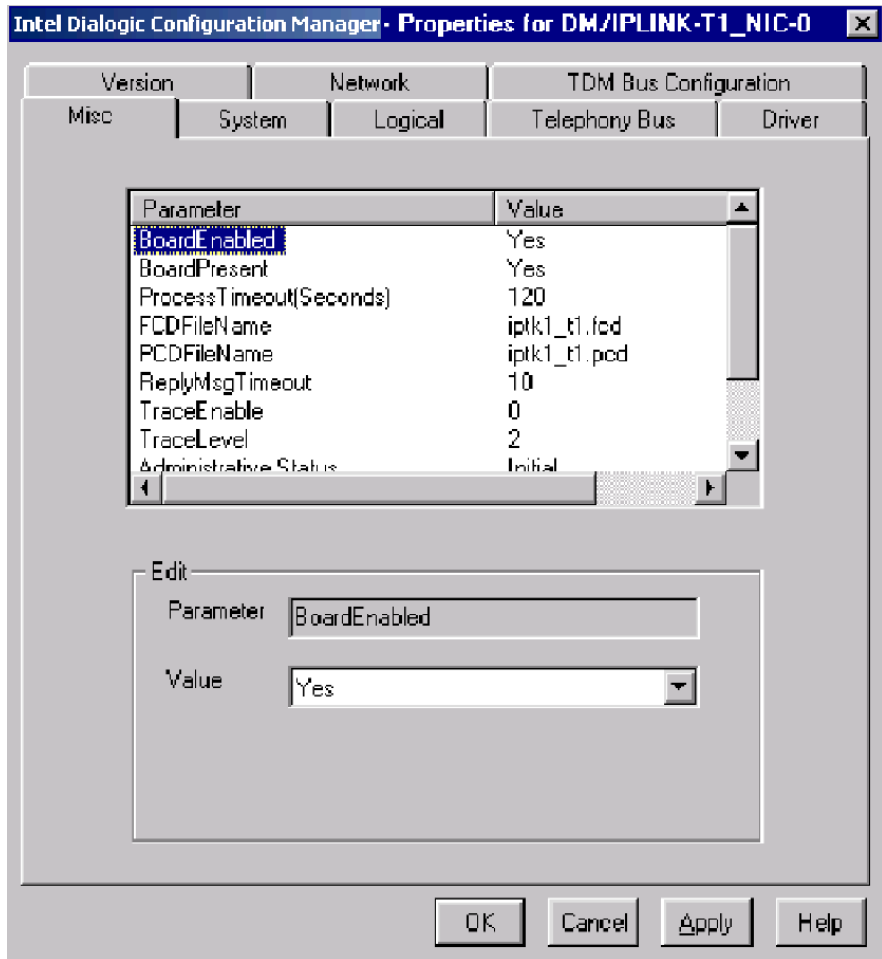

Figure 14. DCM Property Sheets
1. Display the board's property sheets by double-clicking the board model name on the DCM Main Window (Figure 8, "DCM Main Window", on page 45). This brings you to the DCM Property Sheets. The sample DCM Property Sheets window in Figure 14 shows property sheets for a DM3 IPLink board. Click each tab to view all of the board's parameters.